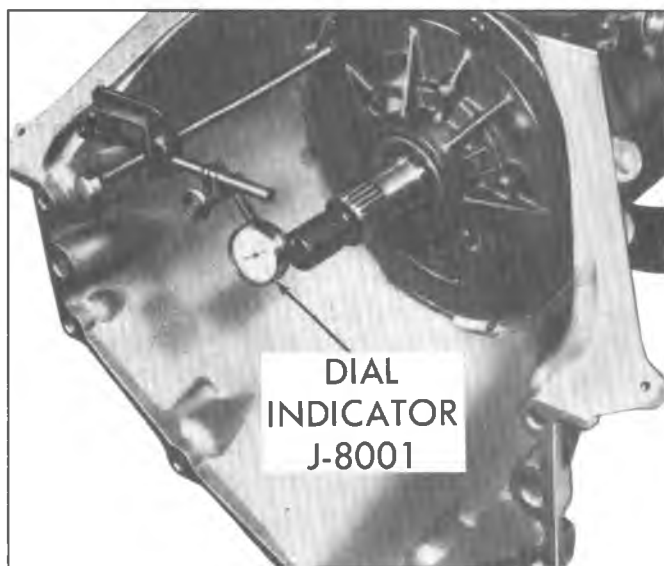

Fig. 25T--Checking Front Unit End Play
4. Make front unit end play check as follows (fig. 25T):
- a. Remove one front pump attaching bolt, and bolt washer. (See Figure 25T for location).